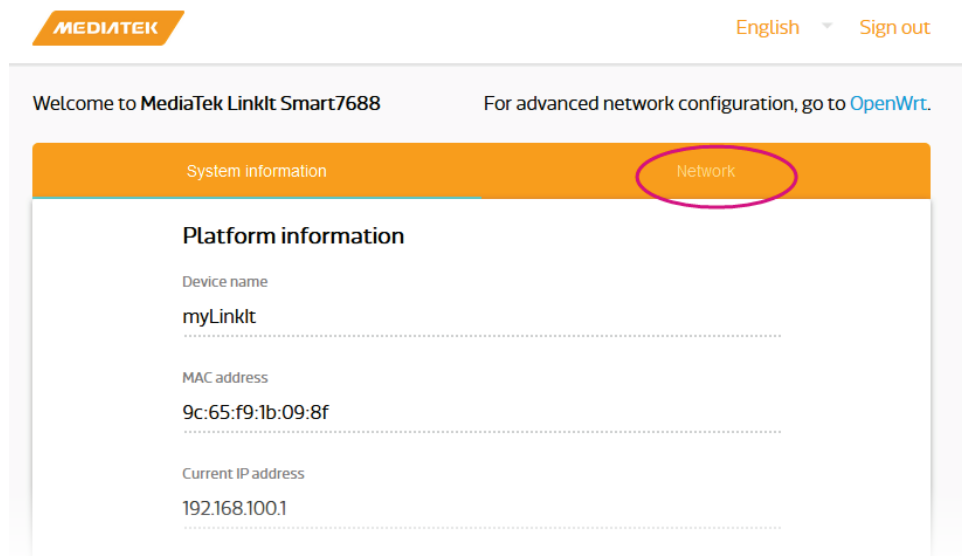

Figure 20 Change networking setting in Web UI
- 1) Click Network button on upper right as shown in Figure 20